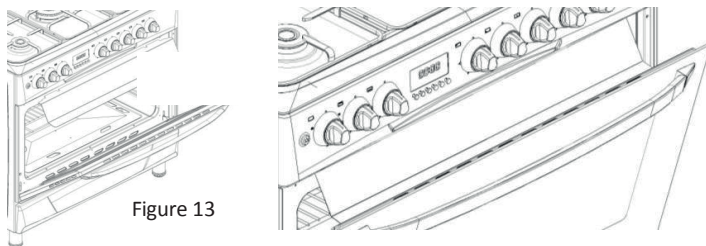

Figure 13
- When using the upper burner in case of the gas ovens, the oven door opens as shown in the figure 13.